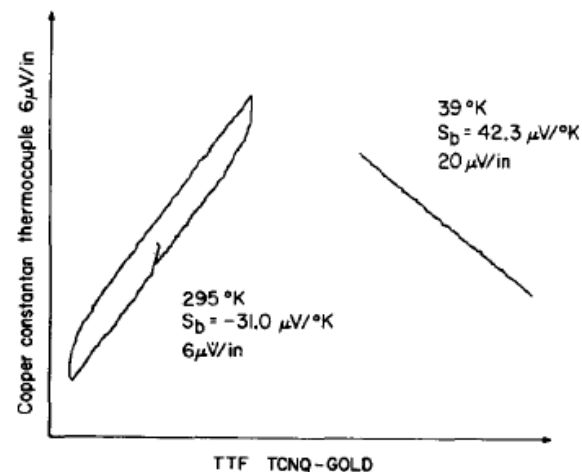

FIG. 2. Typical traces of thermocouple output vs thermopower differences between sample and gold leads.
FIG. 2. (a) Heater currents and (b) ΔV_1 (ΔV_2) as a function of the time. T period of the heating cycle is 30 s and the corresponding periods of oscillation of temperature gradient and thermopower signal are 15 s. (c) S_{dc}/S_{dc} vs frequency method used to determine the optimum frequency range when $S_{dc}/S_{dc} \approx 1$ for the TEP measurements.
FIG. 2. T_c , normalized to $T_{c,max}$, plotted as a function of hole concentration, p determined (i) from $p=x/2$ for $\text{Y}_{1-x}\text{Ca}_x\text{Ba}_2\text{Cu}_3\text{O}_6$ (solid squares), (ii) from $p=V_-$ for $\text{YBa}_2\text{Cu}_3\text{O}_{7-\delta}$ with different δ (open circles), (iii) from $p=V_-$ for $\text{Y}_{1-x}\text{Ca}_x\text{Ba}_2\text{Cu}_3\text{O}_{7-\delta}$ with $\delta \approx 0.04$ and different x (solid diamonds), and (iv) from $p=V_-$ for $\text{Y}_{1-x}\text{Ca}_x\text{Ba}_2\text{Cu}_3\text{O}_{7-\delta}$ with $x=0.1$ and different δ (crosses, \times). The solid curve is Eq. (1), the “plus” symbols (+) are T_c vs x data for $\text{La}_{2-x}\text{Sr}_x\text{CuO}_4$ and solid triangles for $\text{La}_{2-x}\text{Sr}_x\text{CaCu}_2\text{O}_6$.